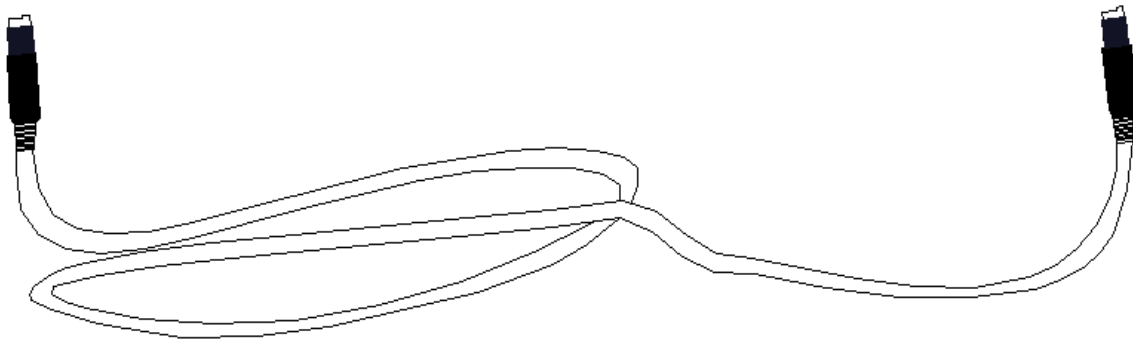

Figure 4
D. Communication data line (see Figure 4)